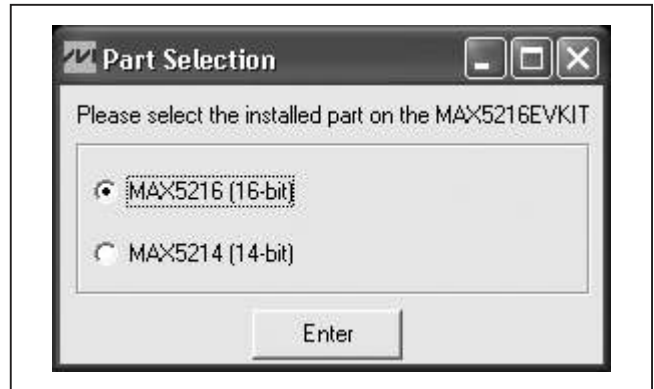
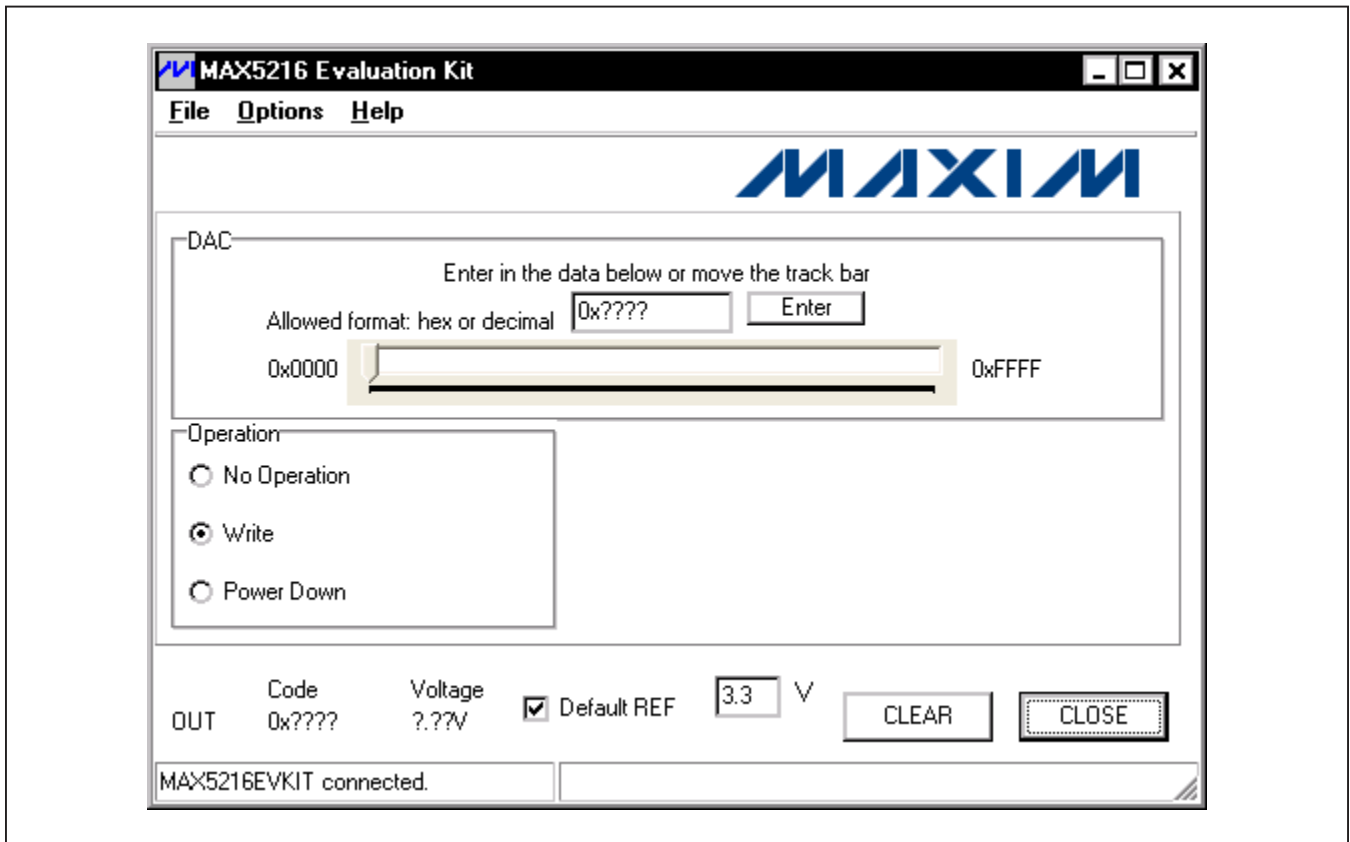

Figure 1. MAX5216 EV Kit Part Selection Window
Figure 2. MAX5216 EV Kit Software Main Window
- 5) Start the EV kit software by opening its icon in the **Start | Programs** menu. The EV kit software (Figure 1) prompts the user to select the installed part on the the EV kit. Once selected, the EV kit software main window appears (Figure 2).
When the program first starts up, the user must select the correct part installed on the EV kit (Figure 1). Once the selection has been made, press the **Enter** button and the main software window appears (Figure 2).